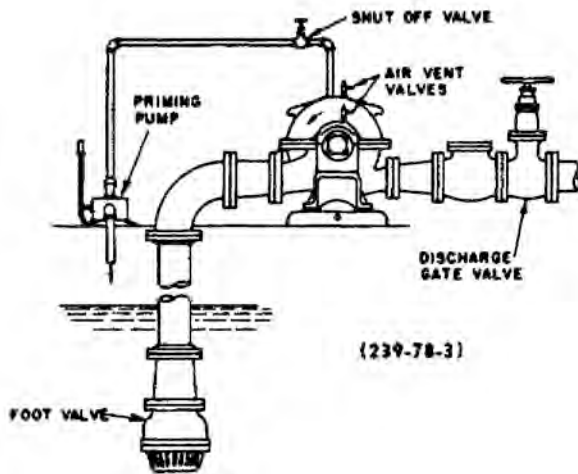

Figure 10:
2. By Separate Hand or Manually Controlled Priming Pump (See Figure 10: on page 22).